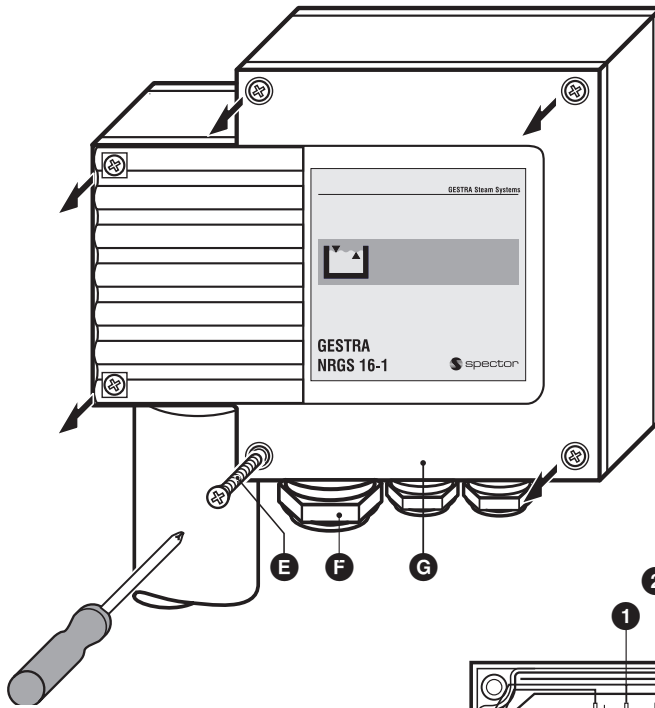

Fig. 5
1. Unscrew screws **E** and take off housing cover **G**. **Fig. 5**